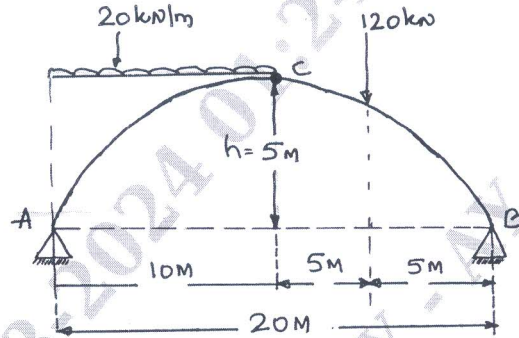

Fig.Q9(a)
- 9 a. Determine the bending moment, normal thrust and radial shear at a section 4 metres from the left support for a three hinged parabolic arch as shown in Fig.Q9(a).